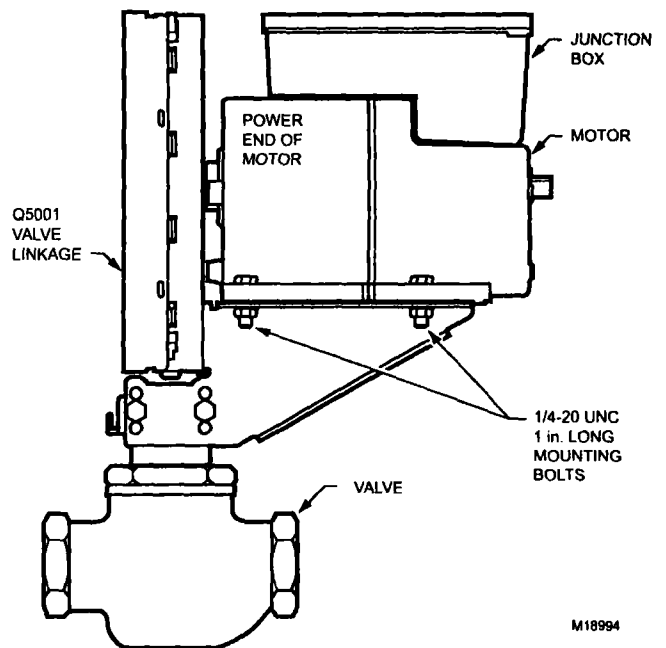

Fig. 4. Mounting the motor on a Q5001 Valve Linkage.
3. Attach the motor to the bracket with the four bolts provided. See Fig. 4.
The Q100 Linkage requires the 220738A Adapter Bracket for all valve applications. Applications with the Q5001 Valve Linkage do not require the 220738A Adapter Bracket (see Fig. 4).